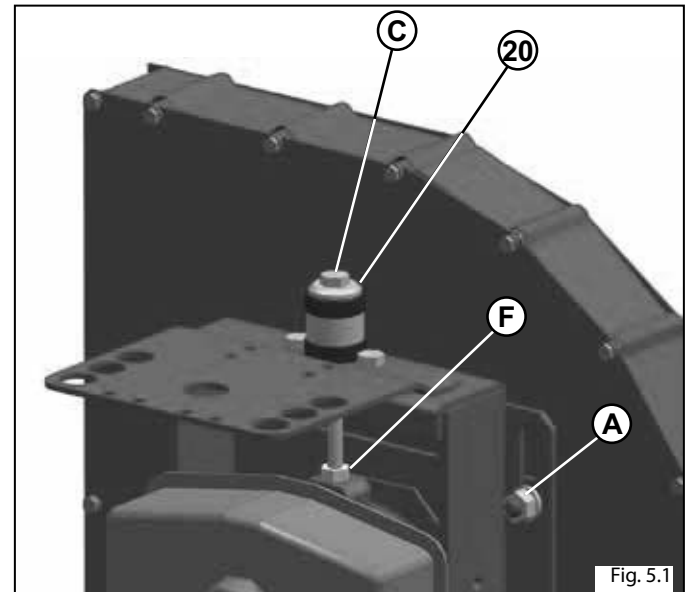

Fig. 5.1
- Loosen nuts **A** (Fig.5.1).
- Loosen nut **F** (Fig.5.1).
- Loosen screw **C** of belt tensioning device **20** (Fig.5.1).